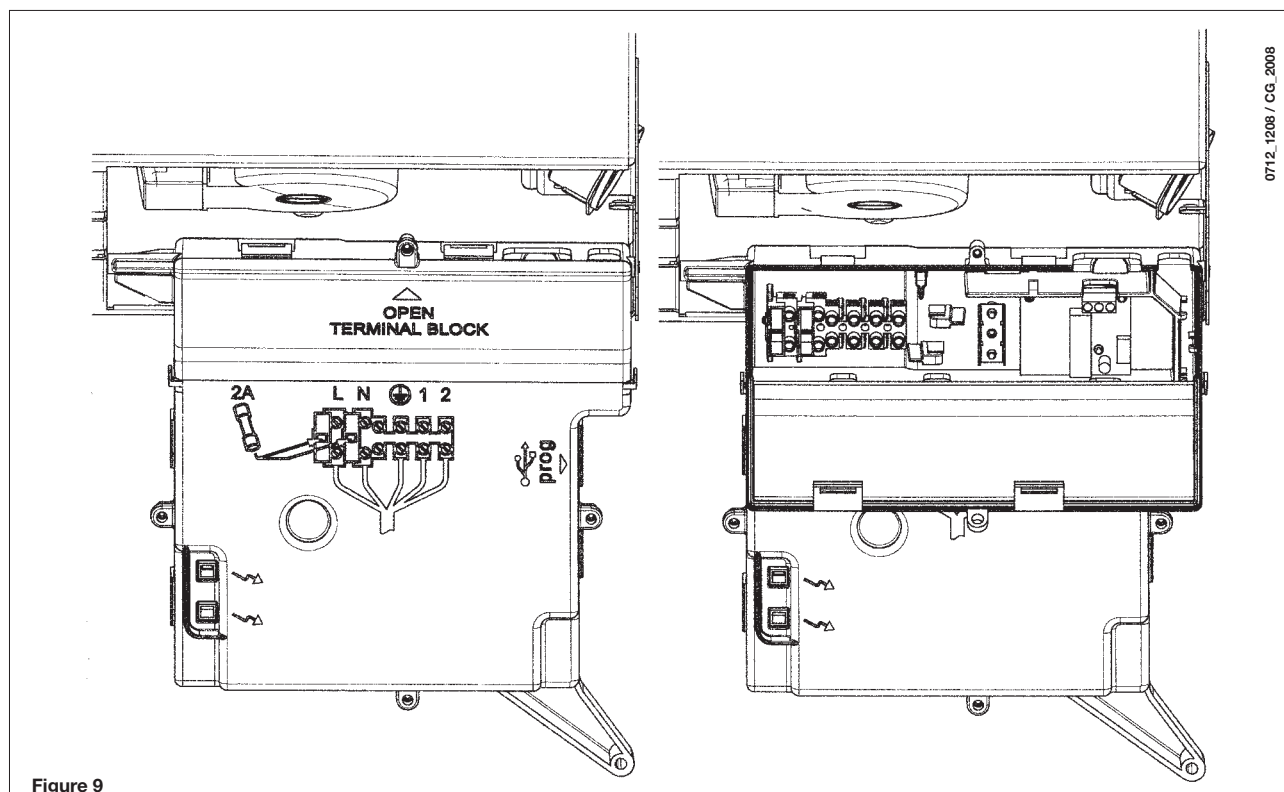

Figure 9
- remove the cover and access the wiring area (figure 9).
- access the power supply terminal block (figure 9) as described in the previous section;
- remove the jumper on terminals (1) and (2);